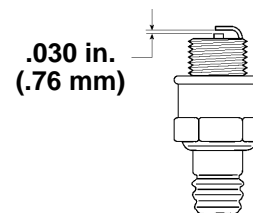

Figure 19
- Set the spark plug gap at .030 inch (.76 mm) (Fig. 19).